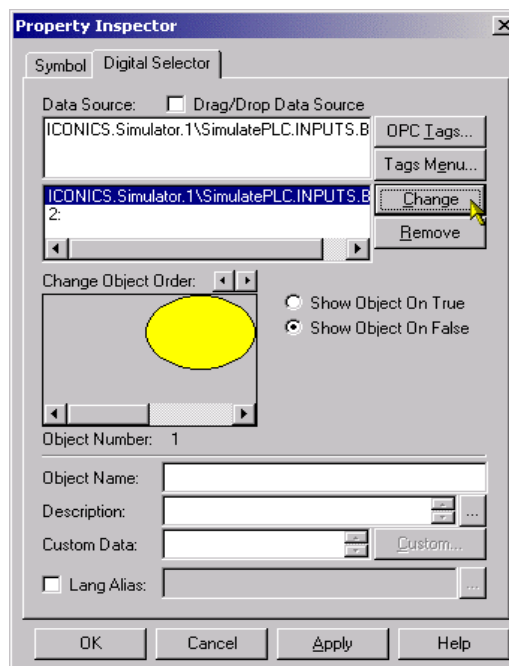

Figure 5.56
16. Highlight **Data Source** and click **Change** to replace **1:** with the tag definition. Also, select the **Show Object On False** radio button. Your **Property Inspector** should now look like **Figure 5.56**.